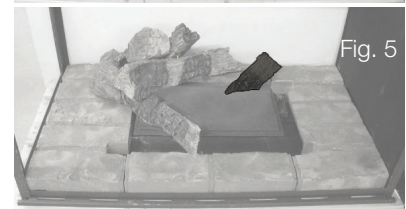

Fig. 5
- Place log #5 onto the pin located in the left side hearth pad and let it rest on the burner (**FIG.5**).